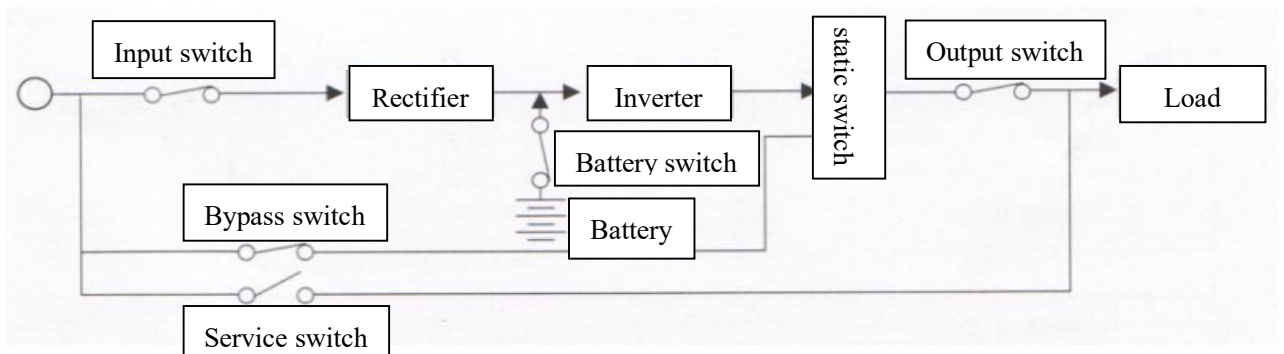

Figure 6
Note: Since the load power is related to the discharge time, the battery will also reduce the efficiency due to low temperature, high temperature or damage. We can disconnect part of the load to extend the power supply time. When the input power is powered off, the alarm also rings intermittently, and the green LED (OUT, BATT) indicators on the control panel are on. When the battery is discharged to an end-of-duration PRE-ALARM voltage close to the battery, the alarm frequency increases and the green LED (IN) indicator on the control panel flashes, at which point it is best to end all work in progress. When the main input power continues to lose power, the battery is exhausted and the UPS stops powering. When the main power supply is restored, the UPS will automatically power it. At the same time, the UPS will automatically charge the battery. See Figure 6